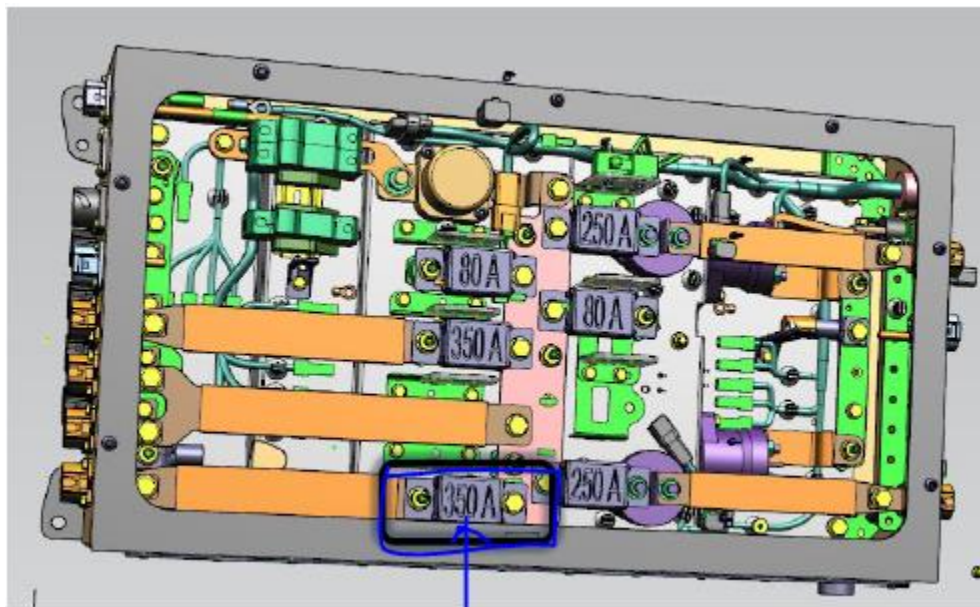

Fig 2: Rear HV Fuse Box
3. Locate the FUSE – 250A HV DC1700M1760 at the bottom of the rear inverter rack as marked in fig. 2.